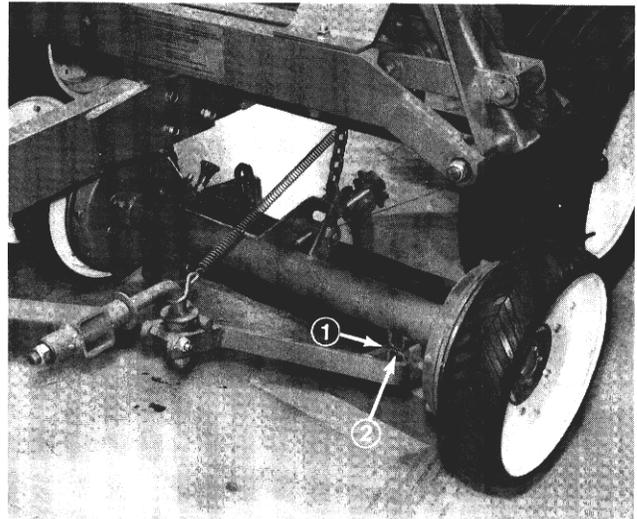

Figure 11
1. Align holes in drawbar with brackets on mower cross-tubes. Secure each side with 1/2-13 x 3-1/2" lg. capscrew, spacer tube and 1/2-13 locknut (Fig. 11).